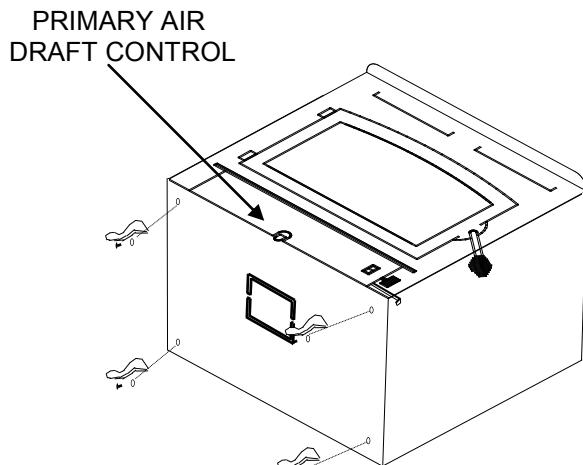

Figure 23
3. Check primary air draft control to ensure that it slides freely.(See Figure 23).
5. (**Leg Kit**): If legs are to be used, obtain four legs, attach legs to holes in bottom of unit with bolts and washers supplied with leg kit. (See Figure 23).